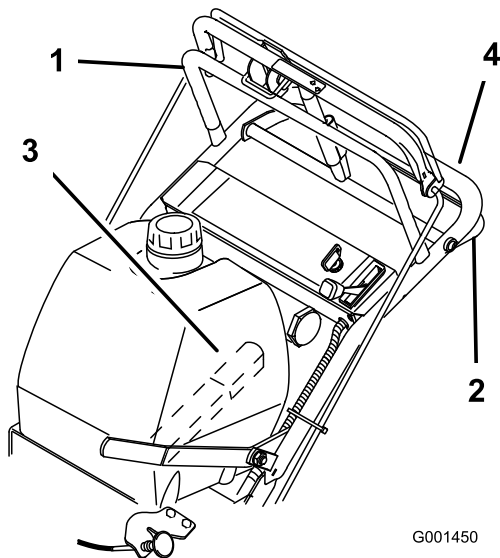

Figure 8
1. Move the shift lever to a forward gear (Figure 8).
3. Slowly press on the upper control bar to move forward (Figure 8).
To go straight, apply equal pressure to both ends of the upper control bar (Figure 8).
To turn, release pressure on the upper control bar side in the direction you want to turn (Figure 8).
3. Slowly squeeze the lower control bar and lower handle together to move rearward (Figure 8).